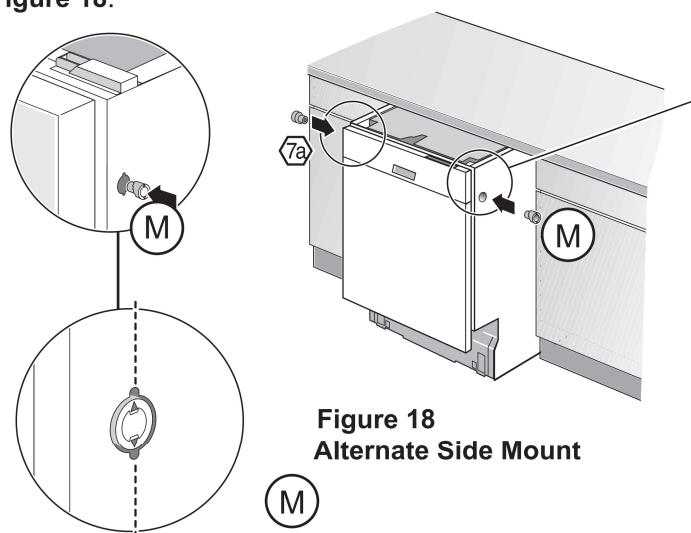

Figure 18
Alternate Side Mount for opening 23⁵/₈" (600 mm). Insert a side mount force distributor (M) in each side as shown in **Figure 18**.